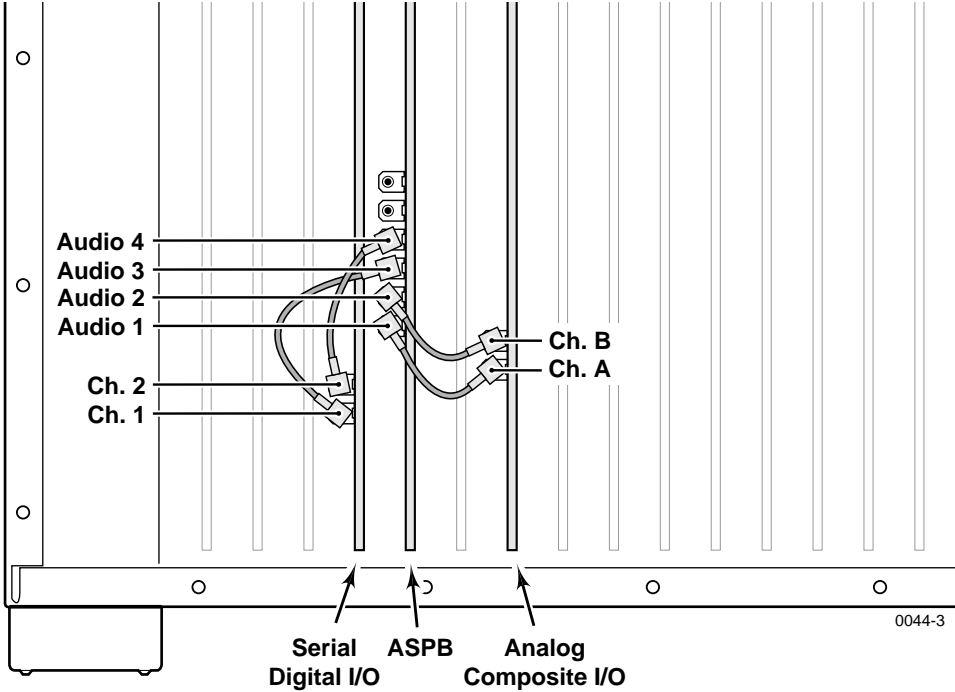

Figure 5. Example of Audio Clock Cabling in a PDR202D
In Figure 5, the Analog Composite I/O board installed in slot J11 makes it the first video board, counting from J5 to J15, and the Serial Digital I/O board becomes the second video board. You would have to move the Serial Digital I/O audio clock cables from the ASPB Audio 1 and Audio 2 connectors to, respectively, the Audio 3 and Audio 4 connectors. Audio clock cable connections are then:
- a. Figure 5 is an example of a 2-channel PDR200 with one Serial Digital I/O board.